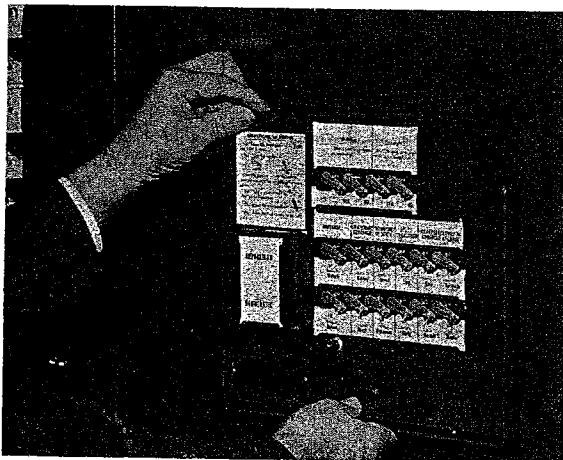

Figure 7. Removing Instruction Model.
5. Remove Instruction Model from inside right front door by lifting upward. (Figure 7)